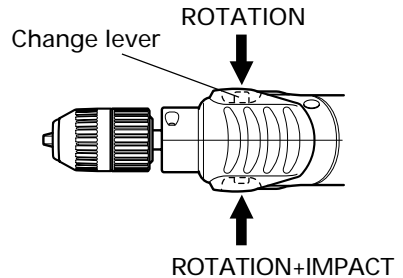

Fig. 6
10. IMPACT to ROTATION changeover (Fig. 6)